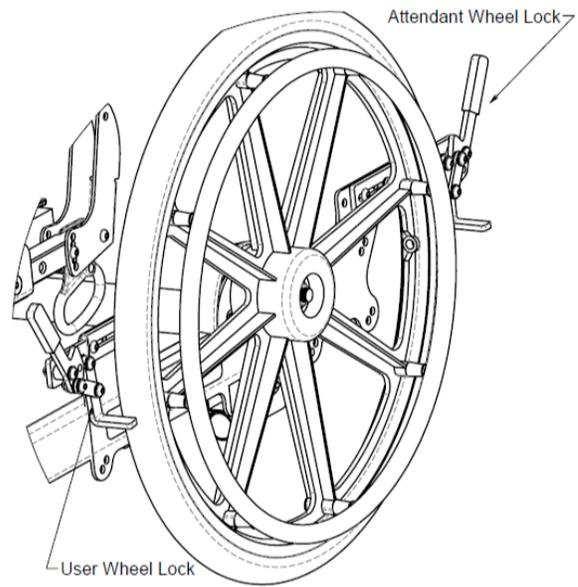

Figure 15.41: *User Wheel Locks and Attendant Wheel Locks*
4. To engage the attendant wheel lock in the User and Attendant Wheel Lock option (see Figure 15.41), follow the step 3 instructions. To engage the user wheel lock in the User and Attendant Wheel Lock option (see Figure 15.41), follow the instructions corresponding to the user wheel lock type (ie. Push to Lock or Pull to Lock).